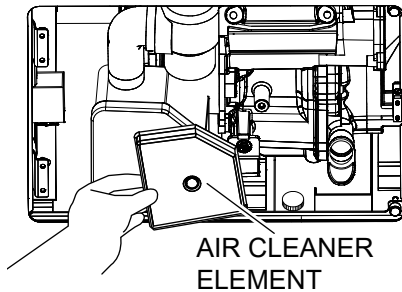

Figure 46. Air Cleaner Element
4. Remove the element (filter) from the air cleaner (Figure 46).